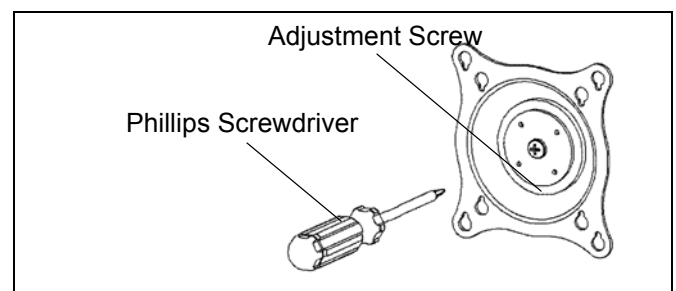

Figure 11
- Using Phillips screwdriver, slightly loosen or tighten the adjustment screw as necessary (See Figure 11).